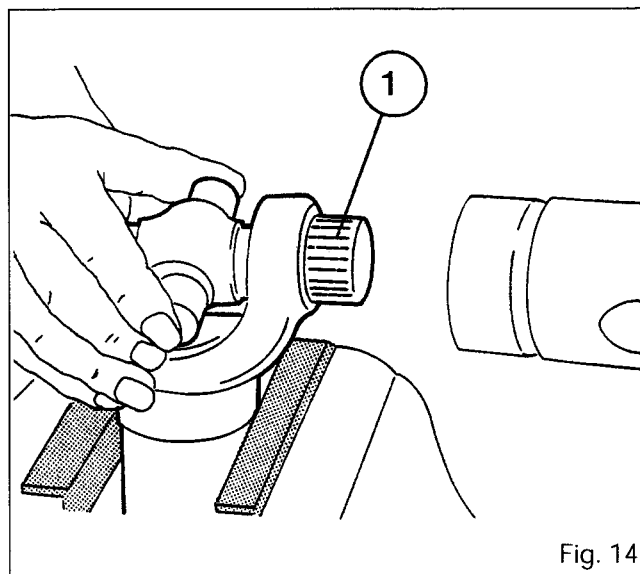

Fig. 14
90. Drive the sleeve **(1)** sufficiently far into the yoke, holding the cross-pin (Fig. 14) to fit the circlip.